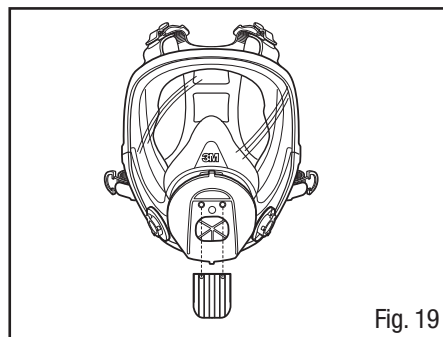

Fig. 19
4. Place new exhalation valve replacement over the exhalation port by inserting stems and pulling through from the opposite side until they are both snapped in place (Fig. 19 and 20). Push laterally on valve stems to ensure they are properly seated.